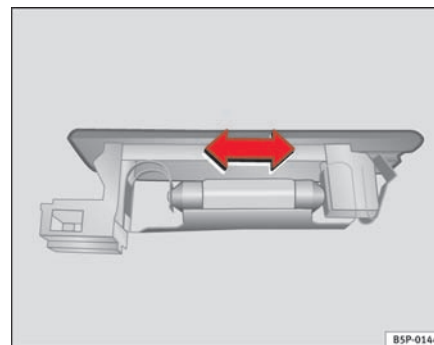

Fig. 147 Luggage compartment light
- Press the lamp sideways and remove it from its housing ⇒ fig. 147. ■